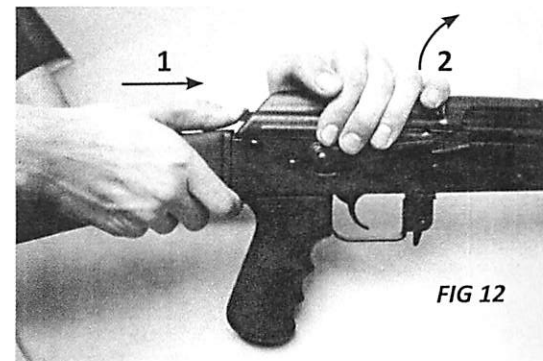

FIG 12
1. Remove the receiver cover. Lean the rifle against a table or other suitable surface and hold the forward part of the butt with the right hand. With the thumb, depress the guide button in the end of the cover into the cover while simultaneously raising the cover upwards. (See Fig.12)